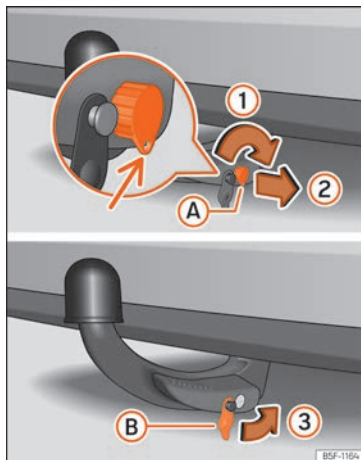

Fig. 186 Putting the tow hook in place. Step 2.
- Turn the key to the right just half a turn, until the hole in the key faces downwards »» Fig. 186 ①.
- Remove the key ②.
- Place the cover ③ on the lock ③ »» Fig. 186 »» ⚠.